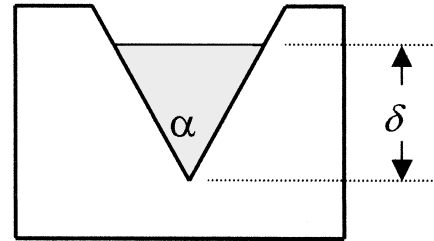

Fig. P5.69
**5.69** A simple flow-measurement device for streams and channels is a notch, of angle  $\alpha$ , cut into the side of a dam, as shown in Fig. P5.69. The volume flow  $Q$  depends only on  $\alpha$ , the acceleration of gravity  $g$ , and the height  $\delta$  of the upstream water surface above the notch vertex. Tests of a model notch, of angle  $\alpha = 55^\circ$ , yield the following flow rate data: